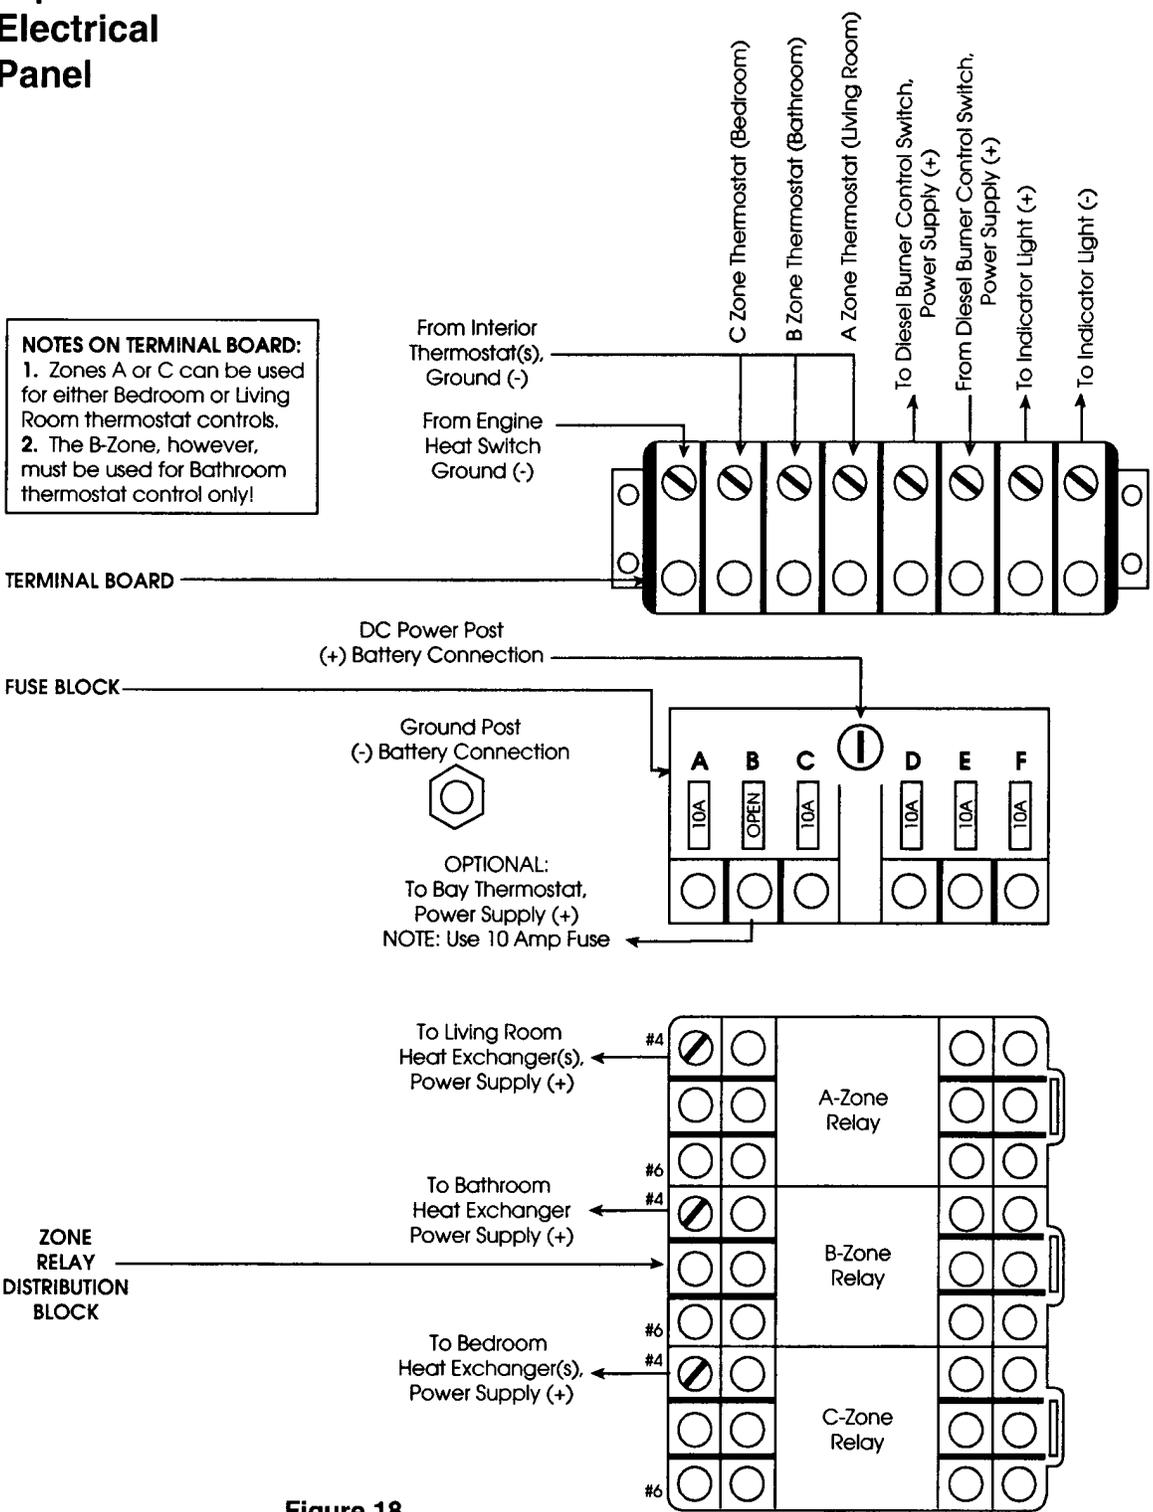

Figure 18
- C. Crimp an electrical connector (fork or ring type) onto each wire and connect to the appropriate zone relay (Pin #4), see Figure 18.
- E. Connect the other thermostat lead to a good chassis ground or to the ground post on the Aqua-Hot, see Figure 18.
**NOTE:** The Aqua-Hot's fuse block has an open power slot that can be utilized as an auxiliary DC power source, see Figure 18. If utilized, use a 10 amp fuse (ATO type).
- the Aqua-Hot's zone relay distribution block (ORANGE wire lead), see Figures 18 and 19. Crimp an electrical connector (fork or ring type) onto the wire and connect to Pin #6 on B ZONE relay block.
- D. Fasten the heat exchanger ground wire to a good chassis ground or to the ground post on the Aqua-Hot, see Figure 18.
- the Aqua-Hot's zone relay distribution block, see Figure 18 (label as WIRE #2). Crimp an electrical connector (fork or ring type) onto the wire and connect to Pin #6 on B ZONE relay block.
B. Crimp electrical connectors (fork or ring type) onto the two wires at the Aqua-Hot's terminal board, and connect to the appropriate terminals, see Figures 18 and 20.
- B. Crimp an electrical connector (fork or ring type) onto the wire and connect to the appropriate terminal, see Figure 18.
- C. Connect the other terminal of the switch to a good chassis ground or to the ground post on the Aqua-Hot, see Figure 18.